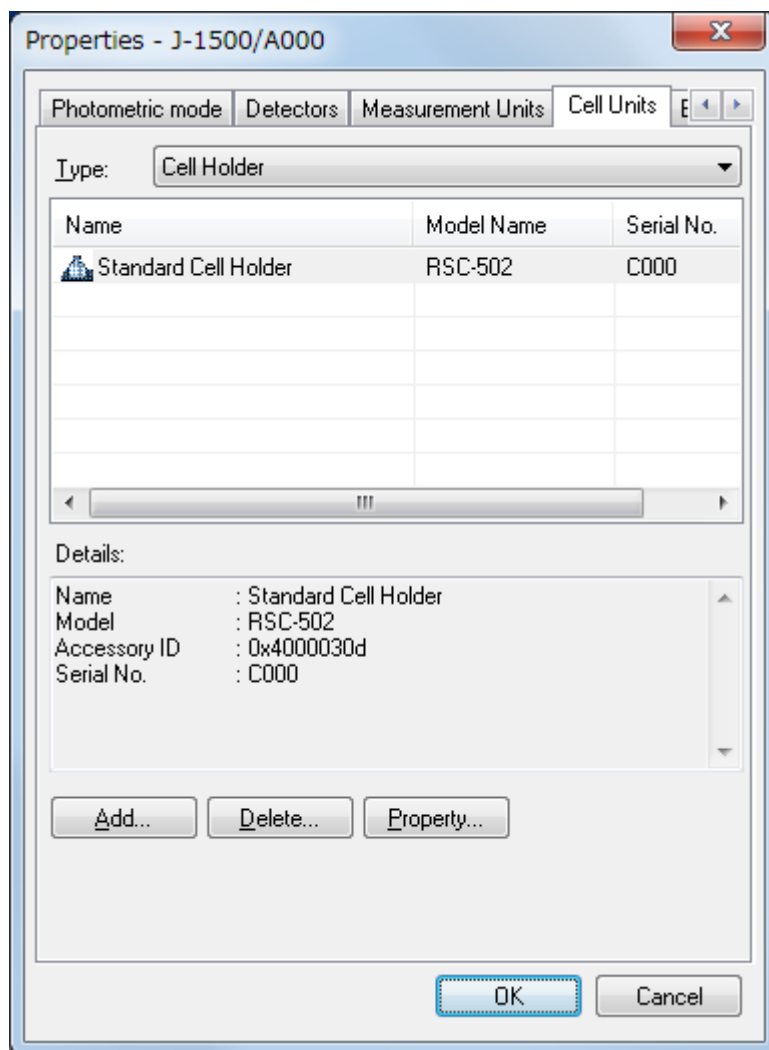

Figure 3.13 [Cell Units] tab in [Properties] dialog box
- (1) Click the [Cell Units] tab in Fig. 3.13. Select the type of cell unit from the [Type] drop-down list.